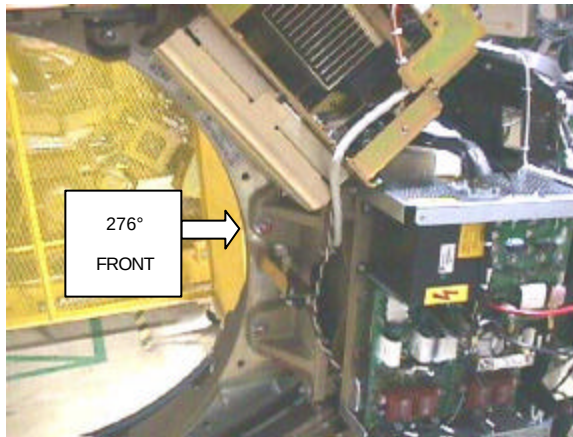

Figure 8
4. Remove the bolt and washer from the 276° location. Refer to Figure 8. For both 84° and 276° locations install one (1) 318 mm threaded rod (P/N 2276908-2) each as follows;